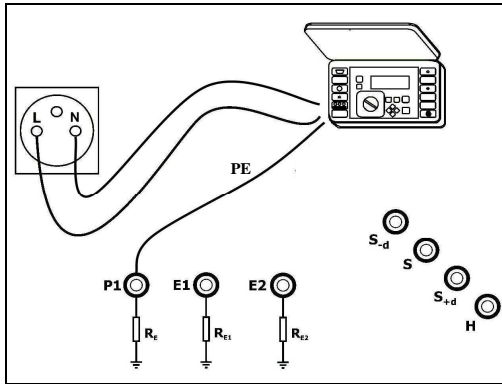

Figure 12. Connection of the meter.
- connect meter of the short circuit loop impedance in accordance with Figure 12,